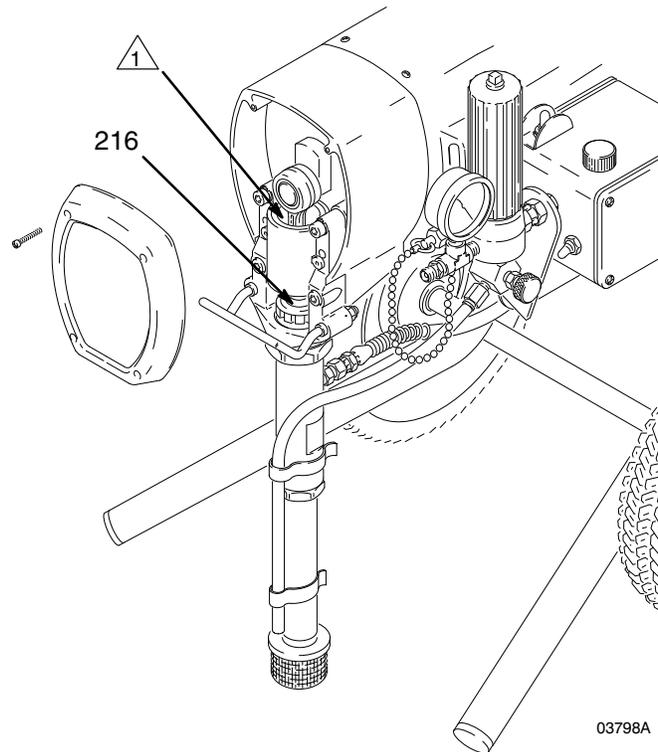

**Fig. 5** 0137
1. If the spray tip does clog, release the gun trigger, engage the gun safety latch, and rotate the RAC IV handle 180°. See Fig. 5.